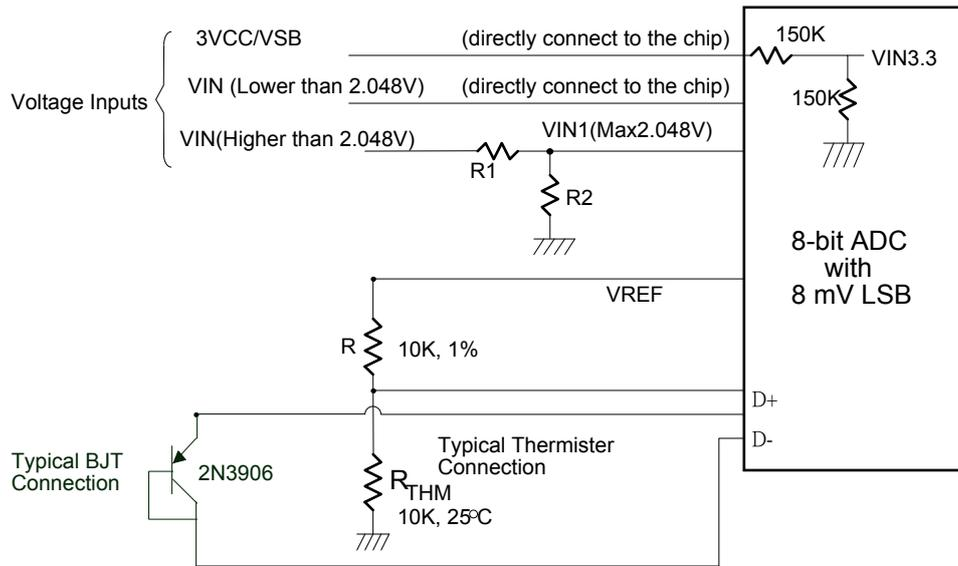

Figure 2. Hardware monitor configuration
The F71869E can connect three thermistors to measure environment temperature or remote temperature. The specification of thermistor should be considered to (1)  $\beta$  value is 3435K (2) resistor value is 10K ohm at 25°C. In the Figure 2, the thermistor is connected by a serial resistor with 10K ohm, then being connected to VREF.
Also, if the CPU, GPU or external circuits provide thermal diode for temperature measurement, the F71869E is capable to these situations. The build-in reference table is for PNP 2N3906 transistor. In the Figure 2, the transistor is directly connected into temperature pins.